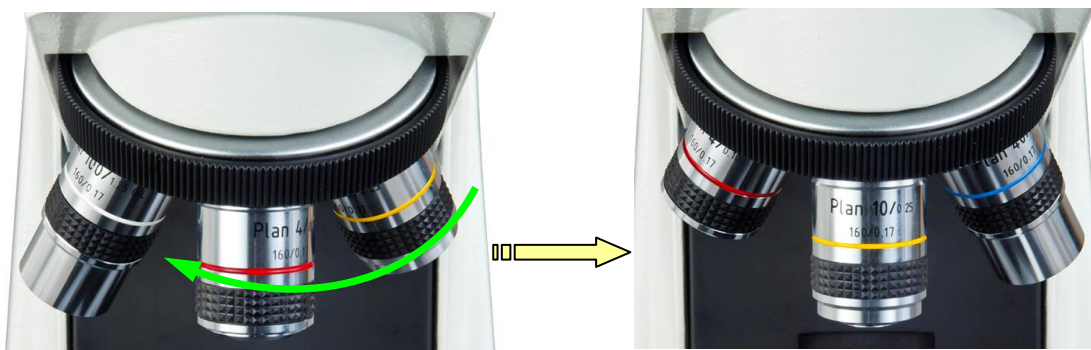

Fig.2
- 3) Take the objectives out from the plastic cases and turn each one clockwise into the holes on the nosepiece. Install the 4X objective into the nosepiece first. Then in a counter-clockwise direction, rotate the nosepiece and install each succeeding higher magnification objective as shown in Fig. 2.